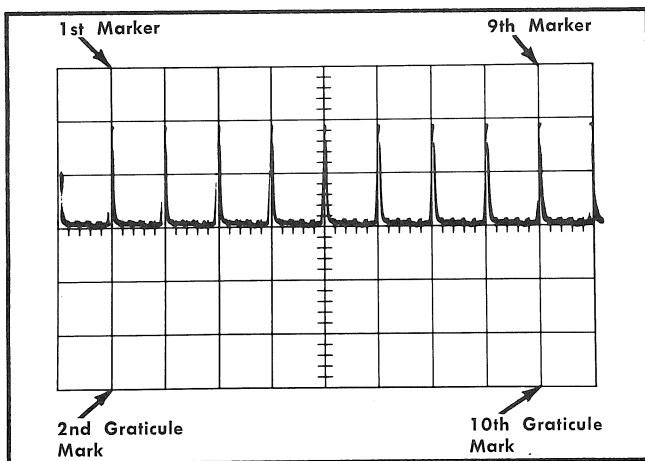

Fig. 4-1. Counting of time markers and graticule marks.
- d. Adjust SWP CAL (R180W) so that the 1st and 9th markers (not counting the marker at the extreme left end of the trace) falls on the 2nd and 10th vertically scribed marks on the graticule (see Fig. 4-1).